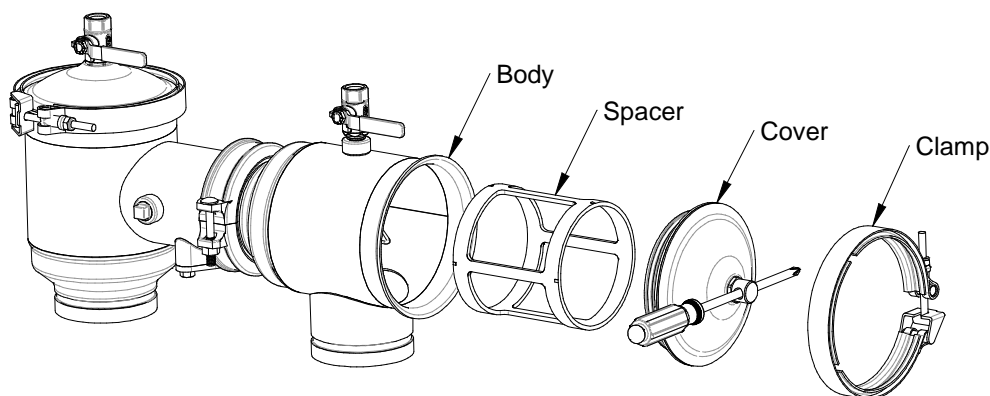

Figure 2
1. Remove the cover clamp by backing off the nut until the latch can be disengaged from the T-bolt. Pull the clamp apart and slide away from the valve. See Figure 2.
2. Lift off the cover. A screwdriver will aid in lifting the 2nd check cover out of the body. See Figure 2.